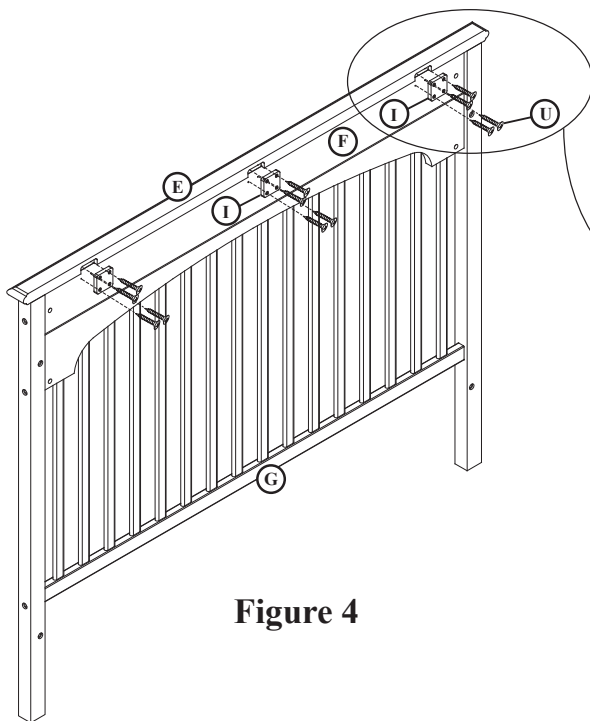

Figure 4
Use the wooden connecting blocks (I) and wood screws (U) to tightly affix the Back Rail Top to the back rail as shown in the figure 4 & 4A.